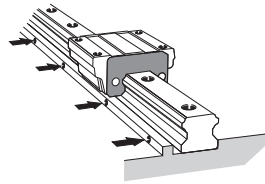

Fig.9 Tightening the Set screws
(3) Secure the set screws for the LM rail in order with a tightening force just enough to have the rail closely contact the side mounting surface. (Fig.9)